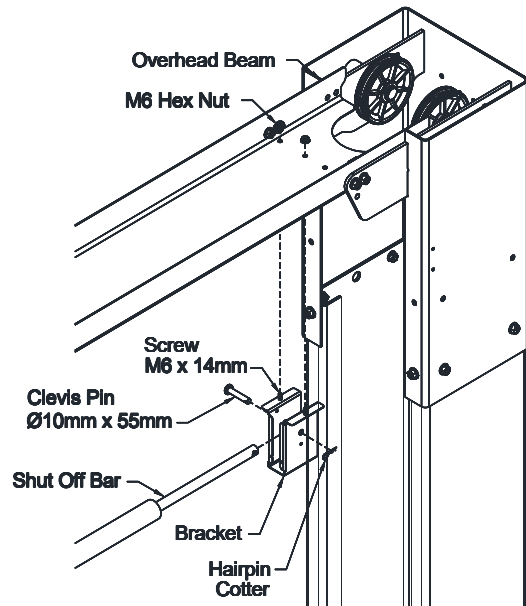

Fig. 9b – Overhead Bracket Idler Side
- 22) Install the idler bracket to the overhead beam using the rear set of holes on the idler side of the lift. **Fig. 9b.** **Note the orientation of the idler bracket. The narrow slot needs to be**